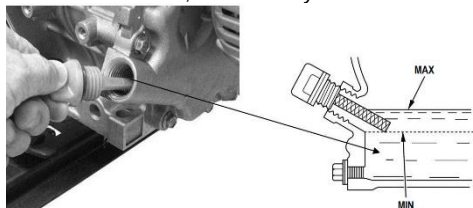

Fig.17
ENGINE OIL CHANGE (fig.17)
- Unscrew the crankcase cover/dipstick (Fig. 11, Fig. 17).
- Unscrew the oil drain plug (Fig. 1) and drain the oil into a special container (Fig. 17)